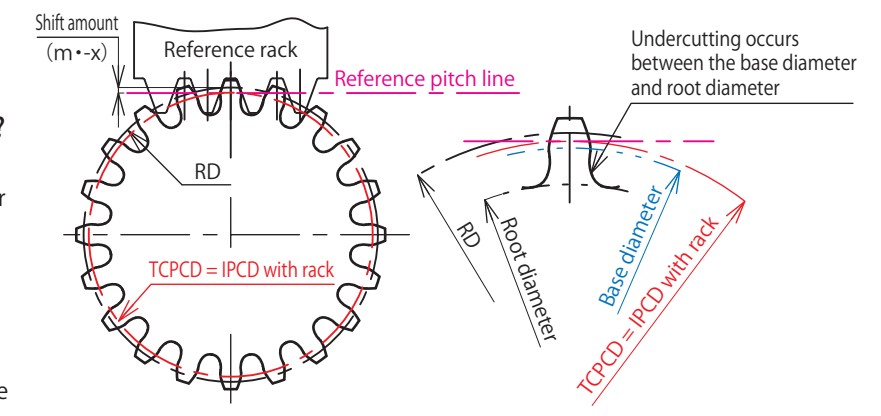

Fig. 3 Tooth profile with a negative (-) rack shift coefficient (x)
Positional relationship between the tooth cutter and gear tooth cutting position (See Fig. 3.)
- Profile-shifted gears are used to prevent or reduce undercutting. When the root diameter is smaller than the base diameter, profile-shifted gears tend to have smaller tooth root strength (see Fig. 3). This phenomenon appears more remarkably with fewer teeth.